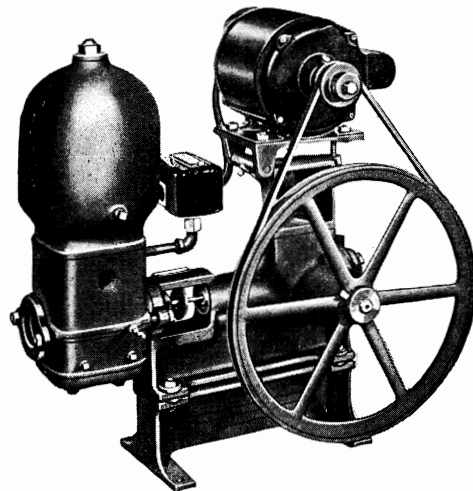

Fig. 8—A shallow well piston pump.
**Piston Pump: (Shallow Well)** The term "reciprocating," is sometimes used to describe the standard piston-type, motor-driven pump shown in Figure 8. A pump of this type is designed to operate at a speed of 200 to 300 revolutions per minute. It is a positive displacement pump, which gives uniform capacity at all discharge pressures. This feature is particularly desirable where water must be pumped at high pressure, as when pumping through a long pipe or to a high elevation.